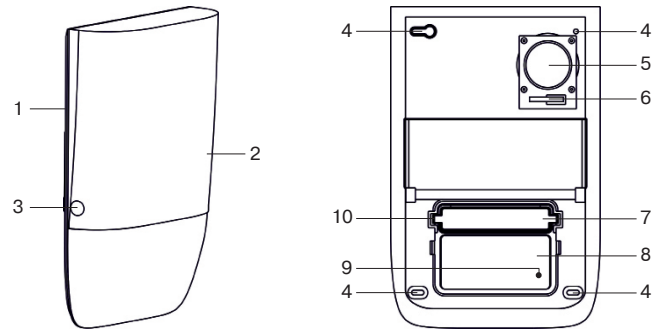
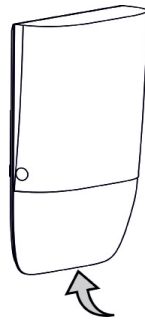

Figure 2 – «Trubach-U-RK»
Рисунок 4
The Siren layout is shown in figure 2 .
8.2 Remove port plugs from screws (Fig.2 pos.3). Untighten the screws. Holding the base, pry off the case cover from the lens side (Fig.4) and put it off.
10.2 Press and then release tamper contacts for 1 s (Fig.2, pos.6).